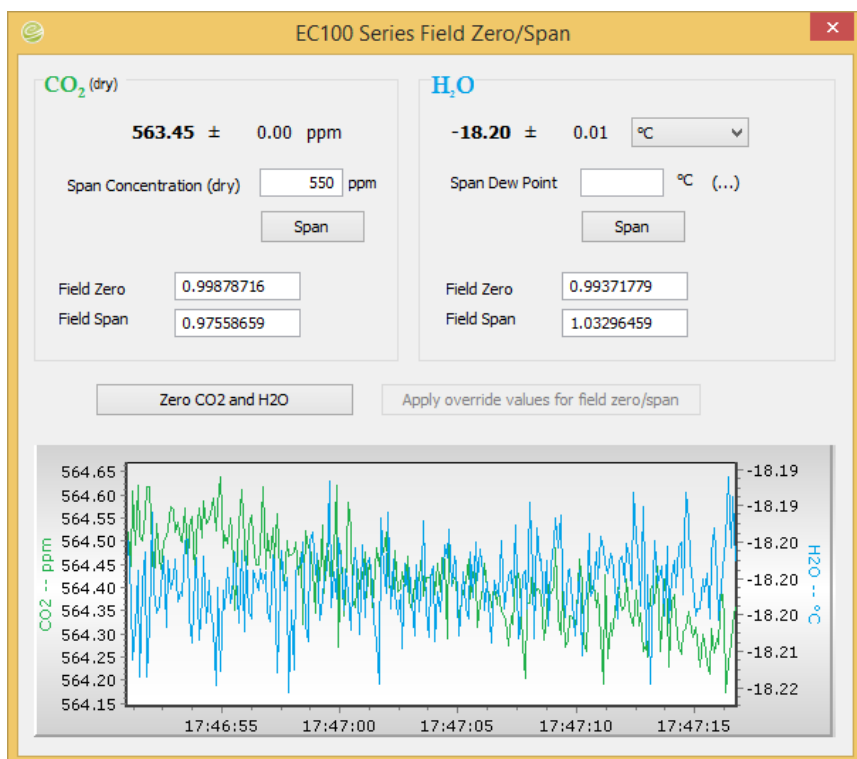

FIGURE 9-10. *ECMon Zero/Span window*
6. Click on the **Zero/Span** button on the main screen of *ECMon*. A real-time graph at the bottom of the window will appear that displays concentrations of CO₂ and H₂O (see FIGURE 9-10).